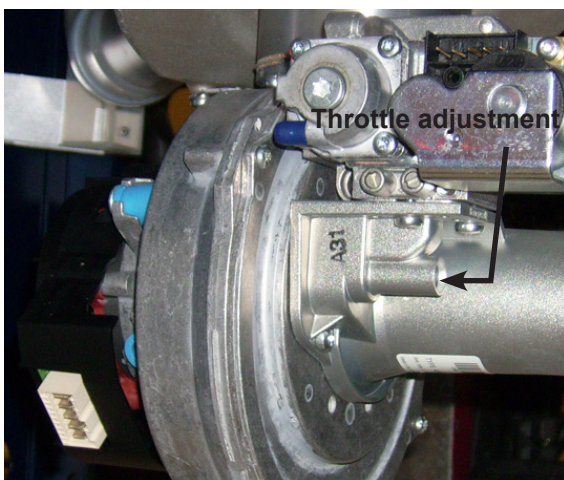

Fig 8.1
4. The CO₂ figure should be as shown in the data table on inside of the cover of this manual. If adjustment is required, pull off the cover from the Throttle Screw and adjust. Screw clockwise to reduce CO₂, anti-clockwise to increase the CO₂, Fig. 8.1